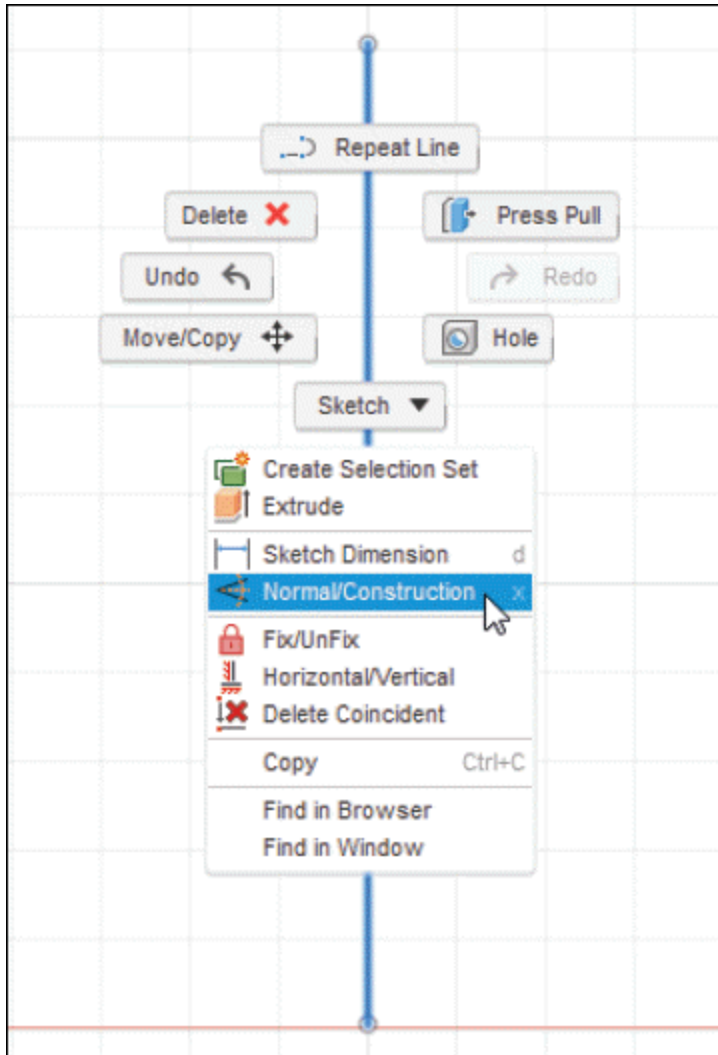

Figure-124. Creating centerline
- Select the line and right-click on this line. Marking menu will be displayed. Select **Normal/Construction** tool to make this line as a center line; refer to Figure-124. Press **ESC** to exit the tool.